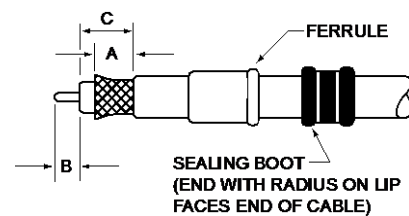

Figure 10-67 Installation of Sealing Boot and Ferrule on Coaxial Cable Before Crimping Contacts
- (3) Strip cable using stripping lengths given in Table 10-27 and illustrated in Figure 10-67. For braided cable, flare braid. (See Figure 10-57.)